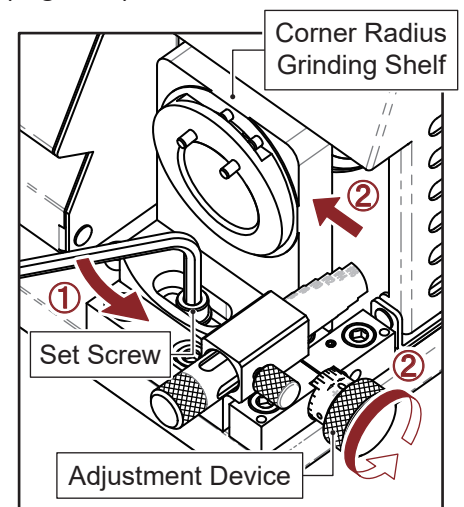

Fig. 6-1
3. Adjust the corner radius grinding shelf to the initial position. (Fig. 6-1)
- ① Loosen the set screw of the shelf.
- ② Turn the adjustment device counterclockwise to move the shelf to the left until it stops.